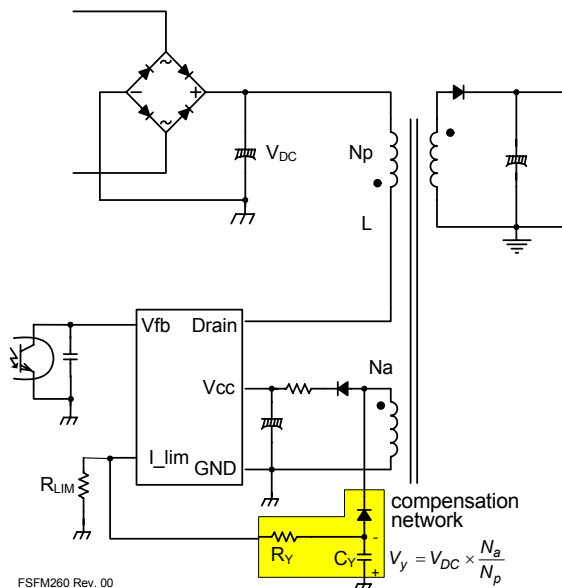

Figure 18. Constant Power Limit Circuit
2.3 Constant Power Limit Circuit: Due to the circuit delay of FPS, the pulse-by-pulse limit current increases a little bit when the input voltage increases. This means unwanted excessive power is delivered to the secondary side. To compensate, the auxiliary power compensation network in Figure 18 can be used. R_{LIM} can adjust pulse-by-pulse current by absorbing internal current source (I_{FB} : typical value is 0.9mA) depending on the ratio between resistors. With the suggested compensation circuit, additional current from I_{FB} is absorbed more proportionally to the input voltage (V_{DC}) and achieves constant power in wide input range. Choose R_{LIM} for proper current to the application, then check the pulse-by-pulse current difference between minimum and maximum input voltage. To eliminate the difference (to gain constant power), R_v can be calculated by: